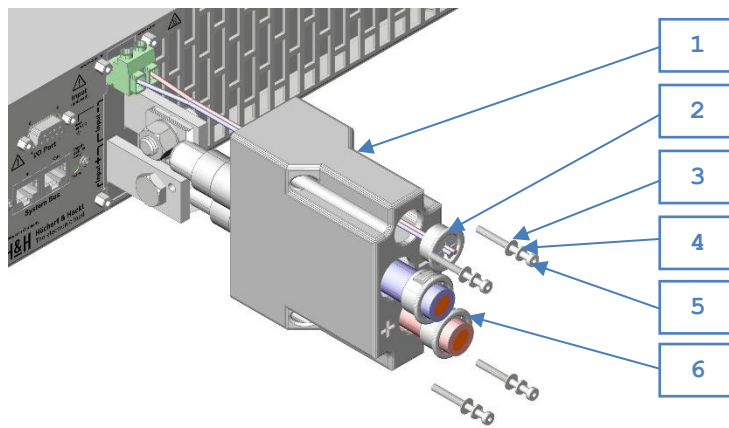

Figure 2.23: Safety cover SAB-PLI-2CUH
4. Insert the loose ends of the load cables as shown in Figure 2.23 first through the corresponding holes in the housing **1** and then through the cable grommets **6**. Pay attention to the right polarity!